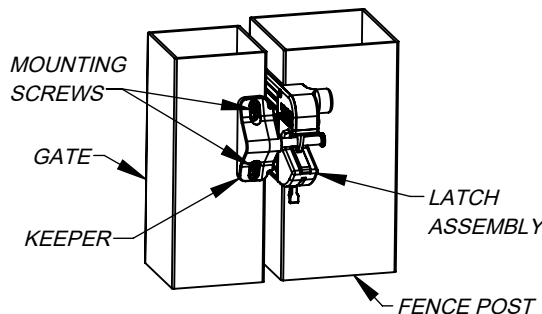
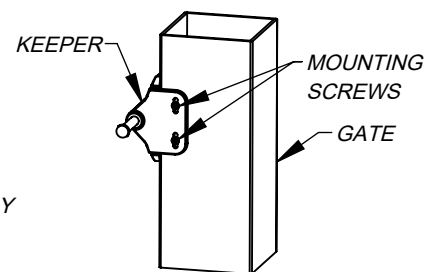

Figure 8
Figure 9
With the gate closed, hold the keeper to the gate, align to the latch assembly, and install (2) pan head mounting screws (Figure 8). Open the gate, and install (2) pan head mounting screws (Figure 9).